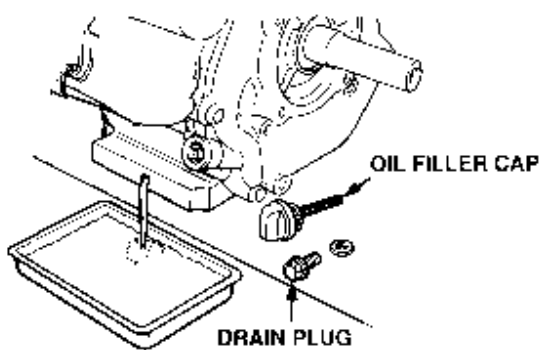

Figure 4-1: Draining Engine Oil
- (1) Drain the oil while the engine is still warm to assure rapid and complete draining.
- (2) Remove the oil filler dipstick/cap and drain plug.
- (3) Allow oil to drain from the engine (Figure 4-1).